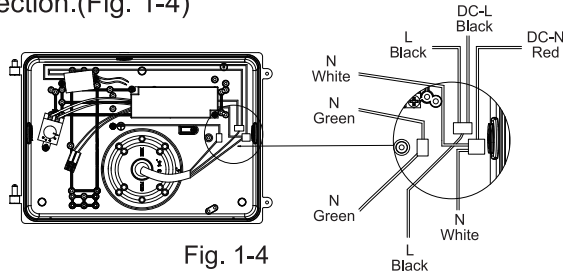

Fig. 1-4
4. Make wiring connections per “Electrical Connections” section and make sure the good wire protection.(Fig. 1-4)